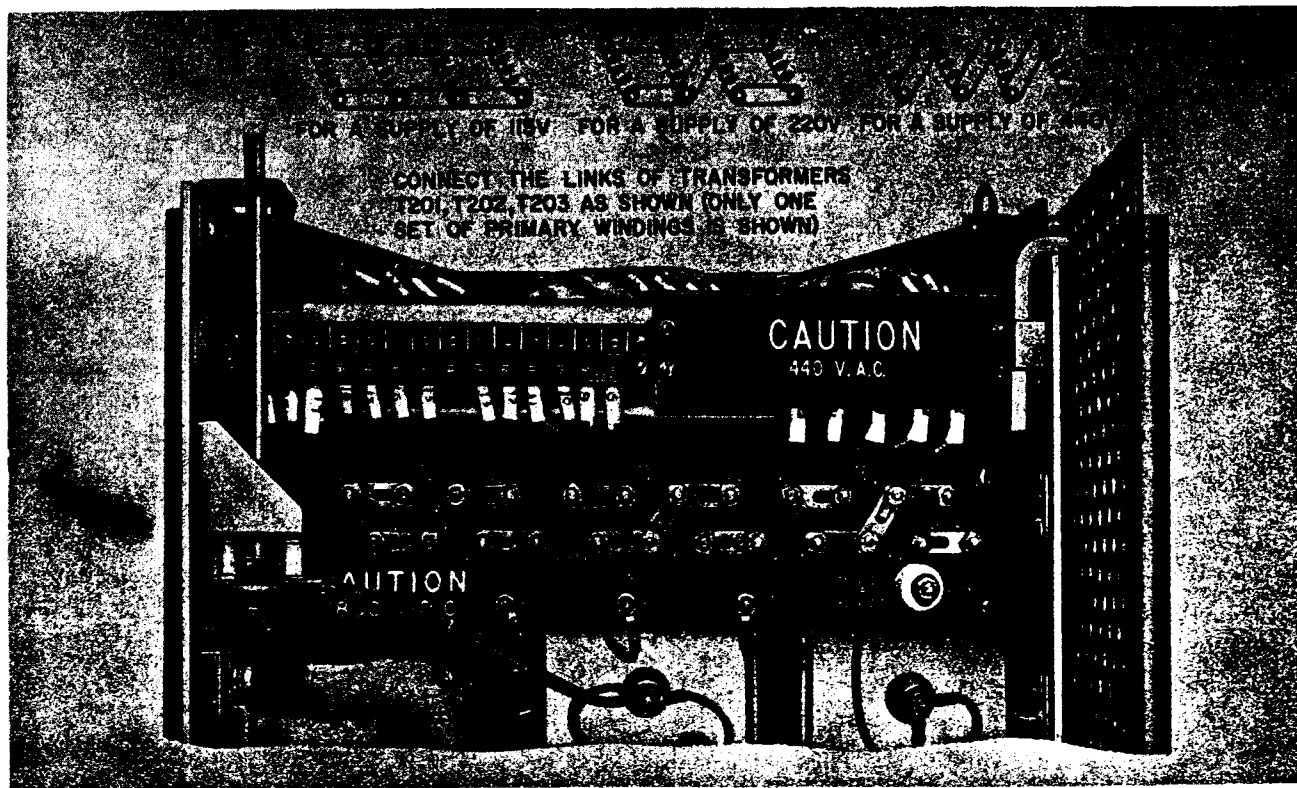

Figure 2-8. Power Supply PP-2222/WRT, Power Input Connections
Step 2. Refer to figure 2-8 and attach the fanning strip portion of the incoming cable to the corresponding terminals on TB101A and TB101B.
Step 18. Connect the links on E201 as shown in figures 2-8, 5-29, and 6-31 according to the voltage supplied. Link positions are stenciled on the board for each of the three possible supply voltages.